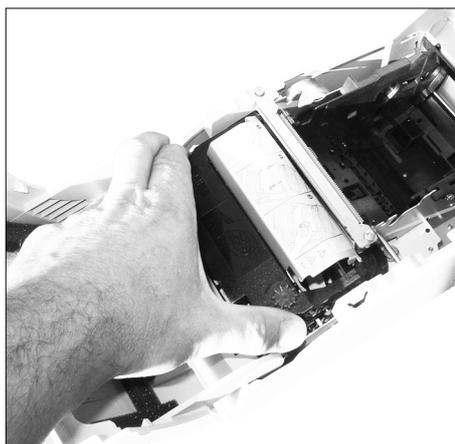

Fig. 8: Removing the ribbon cartridge
- ▶ The ribbon cartridge is re-installed in the device according to page 25 fig. 8. In this connection it has to be made sure that the ribbon between the print head and the pressure plate is smooth and wrinkle-free.